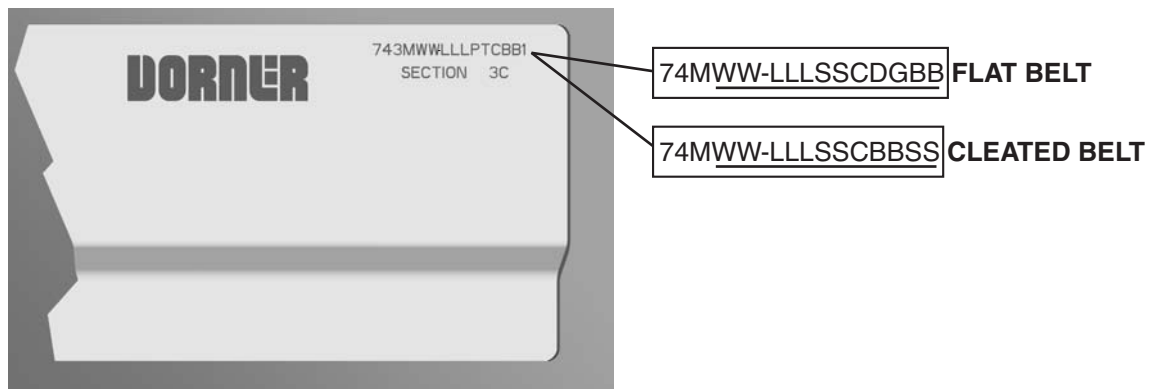

Figure 76
Refer to the model number on the conveyor frame (**Figure 76**). From the model number, determine conveyor width (WW), length (LLL), drive stand location (S), idler stand location (S), cleaning options (C), drive/pulley type (D), profile (G) and belt material (BB).
Refer to the model number on the conveyor frame (**Figure 76**). From the model number, determine conveyor width (WW), length (LLL), drive stand location (S), idler stand location (S), cleaning options (C), cleated belt material (BB) and cleat spacing (SS).